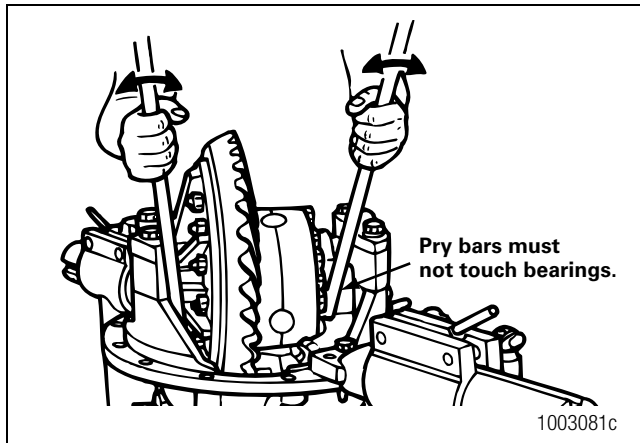

Figure 5.32
- B. Insert two pry bars between the differential case, or the ring gear and the carrier at locations other than specified in Step A. Figure 5.32. The pry bars must not touch the differential bearings.